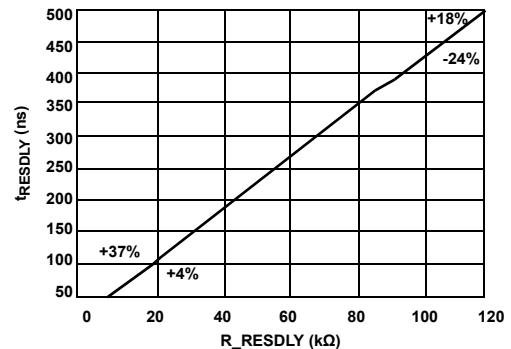

FIGURE 10. R_RESPLY vs RESPLY
- Figure 10 illustrates the relationship of the value of the resistor (R_{RESPLY}) and the resonant delay (t_{RESPLY}). The percentages in the figure are the tolerances at the two end points of the curve.